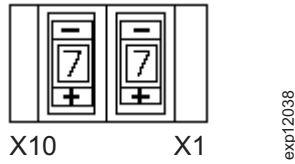

Figure 7. Enclosure ID Switch
- **Enclosure ID switches:** Two enclosure ID switches are located between the power supplies at the rear of the EXP100. These switches identify the EXP100 on a Fibre Channel loop. To set the values, use the end of a paper clip or a small flat-blade precision screwdriver to press the small, recessed buttons on each switch. The top (-) buttons decrease the value and the bottom (+) buttons increase the value, as shown in Figure 7 on page 21, which displays an example value of 77. (Using both switches, you can set the Enclosure ID value from 0 to